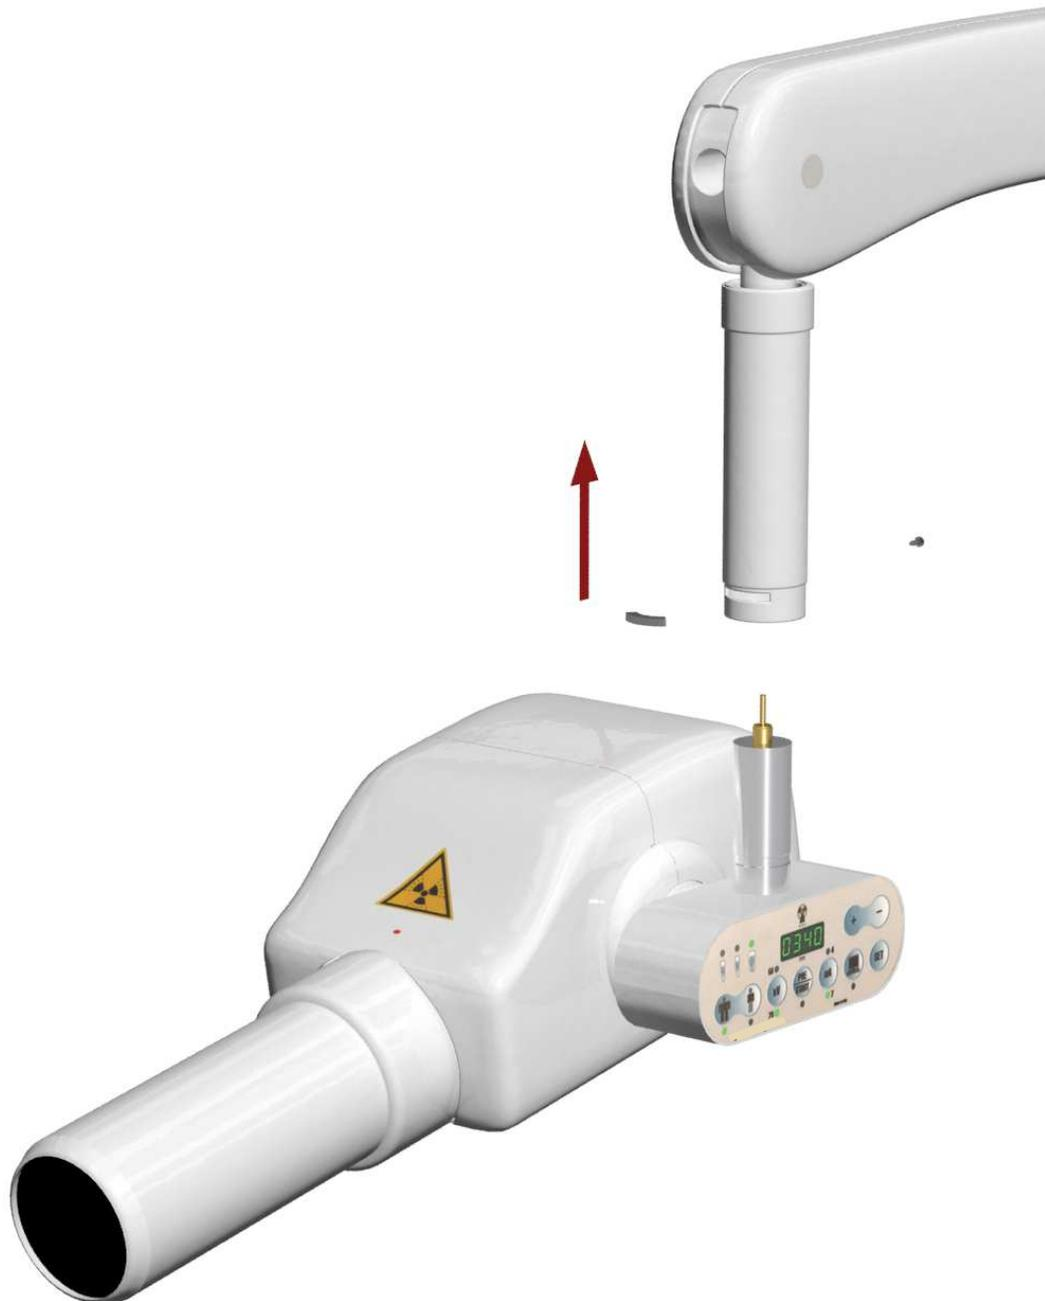

fig. 8
- ✓ Insert Monoblock **(E)** in the double pantograph arm **(C)** as shown in Fig. 8